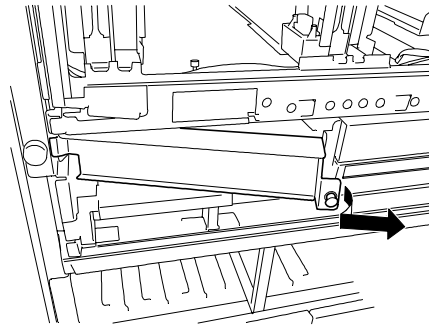

Figure 4-30. Removing the Memory Board Cover
5. Remove the memory board cover by pulling its plastic snap fastener out. Grasp the right side of the memory board cover and swing it left away from the chassis to remove it. Set the memory board cover aside for installation later. See Figure 4-30.